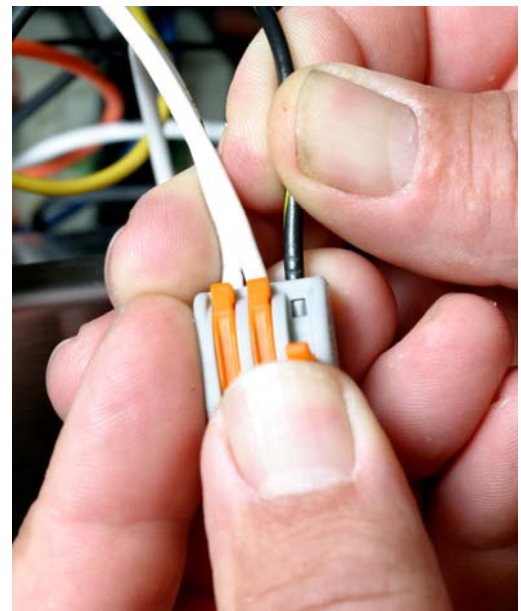
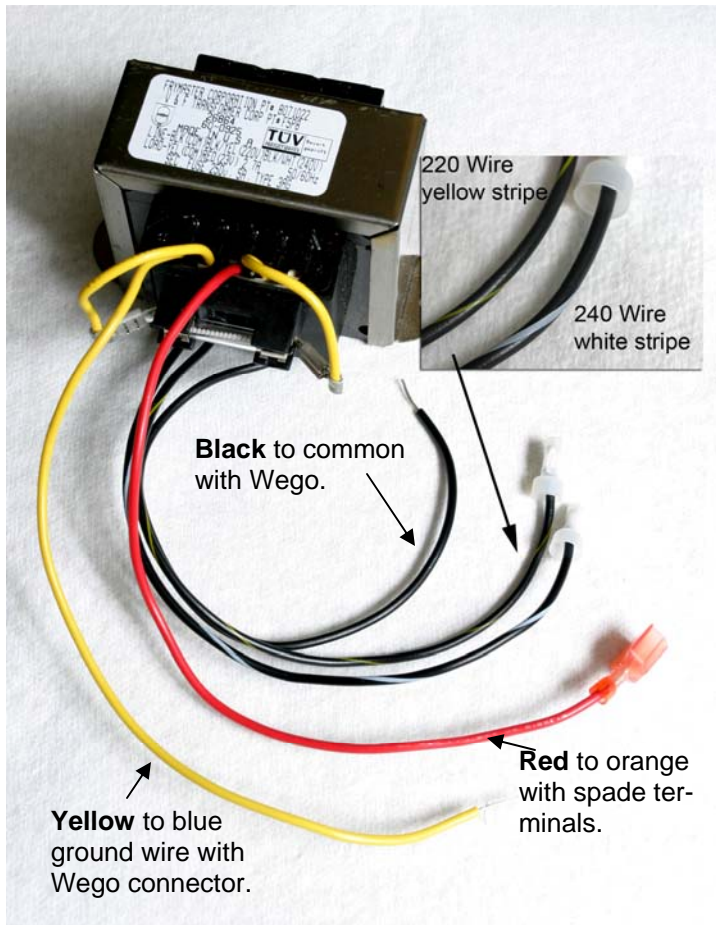

Figure 4: Connect the 24-volt transformer to the line voltage with the Wego connector: 220 is the yellow striped wire; 240 is the white striped wire.
Figure 5: 24-Volt Transformer Wiring
9. Wire the 24 volt transformer as shown in **figures 5, 7** . Connect to the appropriate line voltage with a Wego connector. (**Narrow yellow stripe is 220V; wide white stripe is 240V; black is common.** **See figures 4, 5.**) Connect the red lead from the transformer to the orange wire from J2/Pin2 with spade terminals. Connect the yellow lead from the transformer to the blue wires with a Wego connector.